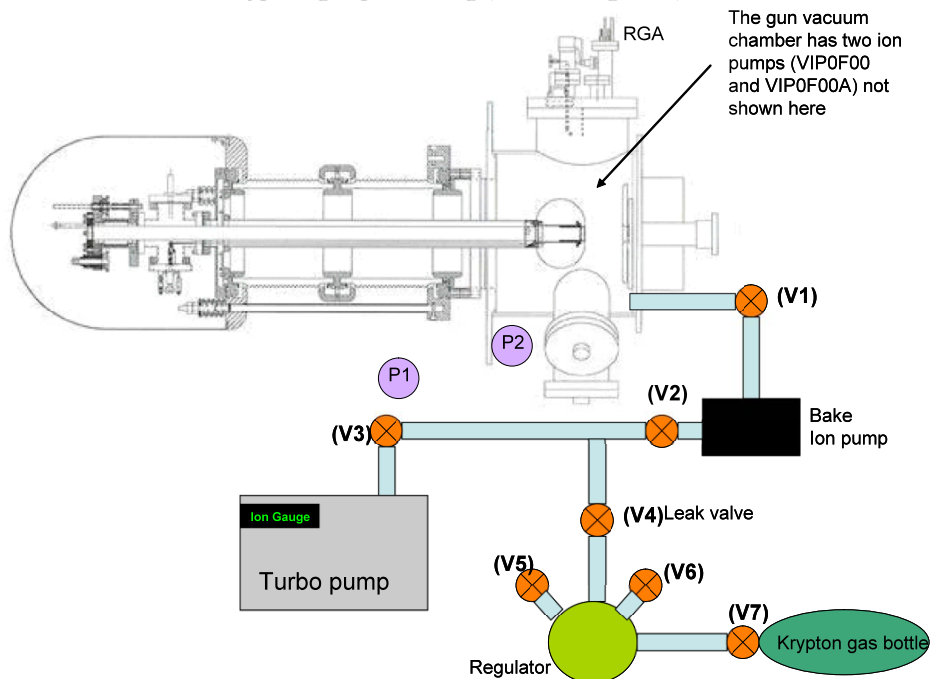

Figure 9. P1 and P2 are radiation detectors (ionization detectors).
One diagnostic that proved essential in the recent FEL gun conditioning is radiation monitors. Two ionization chambers were installed next to the gun, one on the stainless steel vacuum chamber (closest to the ball cathode) and one more on the SF6 aluminum tank to monitor field emission from the support tube electrode, which is coaxial to the ceramic insulator (See Figure 9).
**Pre-conditions for Krypton gas processing (refer to Figure 9)**